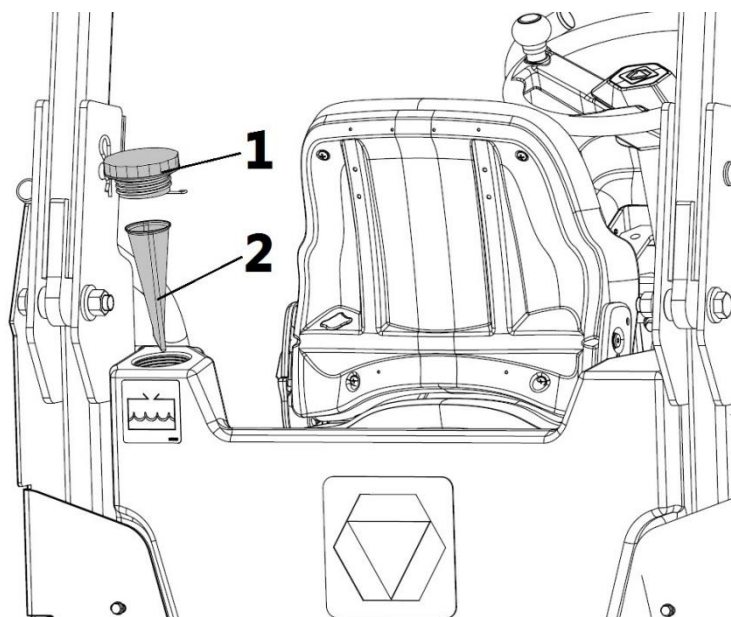

Fig. 5-25: Filter screen (2) is at the water inlet port of water tank
1. Dismantle the filter screen (Fig. 5-25).